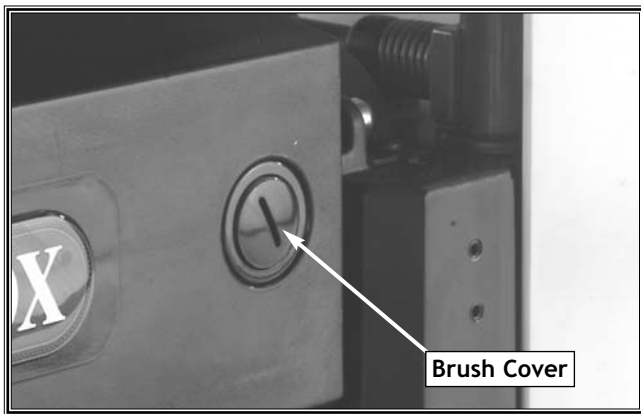

Figure 33. Remove the brush cover.
2. Use a flat-head screwdriver and remove the brush cover. See Figure 33.